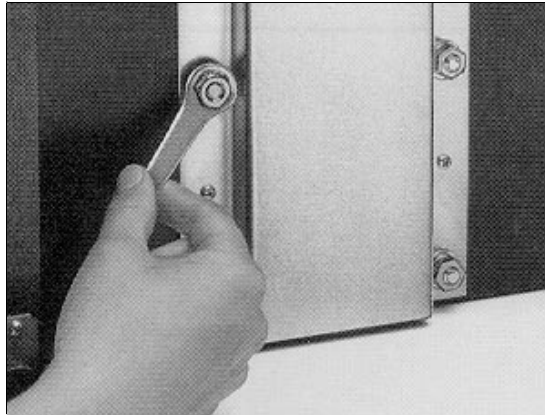

Figure 2-4. Tightening Nuts on Standard Base
3. Tighten the nuts with the wrench provided (figure 2-4); use a suitable screwdriver to hold the bolts while tightening them.